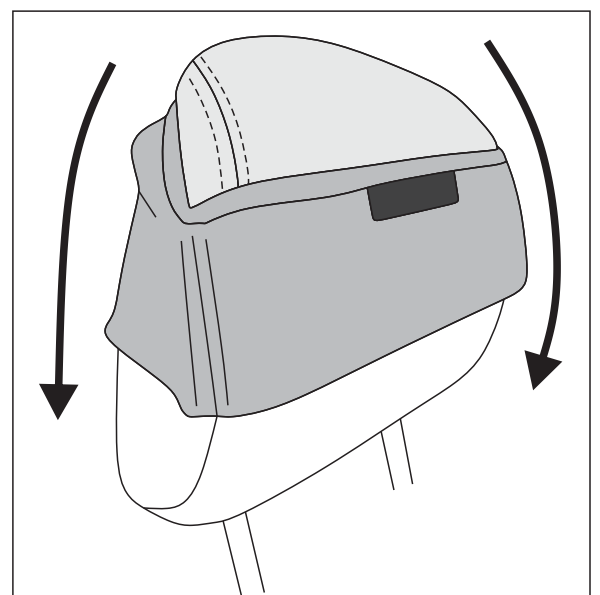

Fig.10
10. Turn the headrest covers inside out and lay upside down on top of the headrest. Proceed to wrap the headrest cover over the headrest by rolling it down evenly. To make sure the headrest cover is being fitted correctly, ensure the seams are aligned before rolling it down. Once fitted, attach the hook and loop tapes underneath (Fig.10).